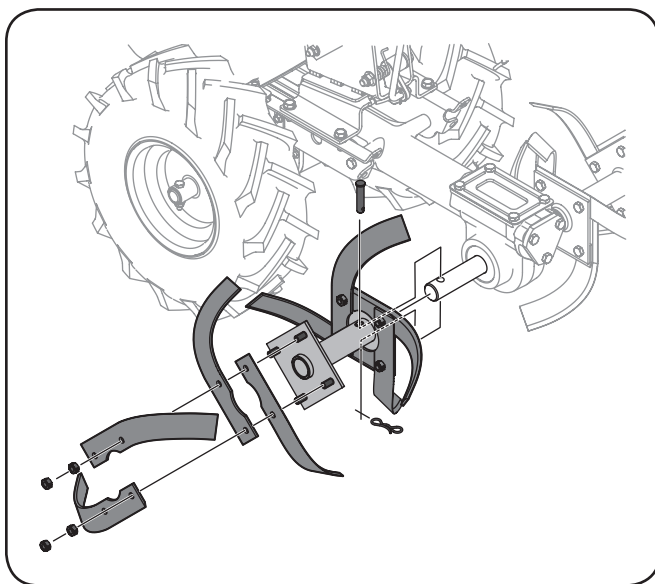

Figure 7-4
2. Remove the clevis pin and cotter pin that secure the tine assembly to the tine shaft. See Figure 7-4. Pull the tine assembly off the shaft. If necessary, use a rubber mallet to tap the tine assembly outward.
1. Remove the two screws and nuts that attach a single tine to the tine holder. If needed, use penetrating oil to help free the nuts. See Figure 7-4.